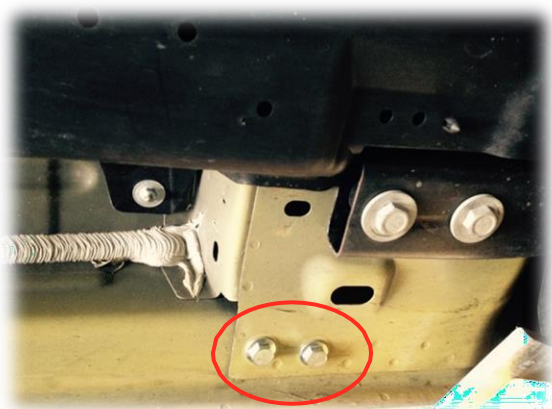

Figure 1: Factory bolts
Note: It is common for factory cars to have less than four bolts. (*Figure 1*)
2. Remove the factory splash shield using a 7mm socket. Remove the 9 screws, 3 push pins and 5 sheet metal nuts per side. See Figure 1.